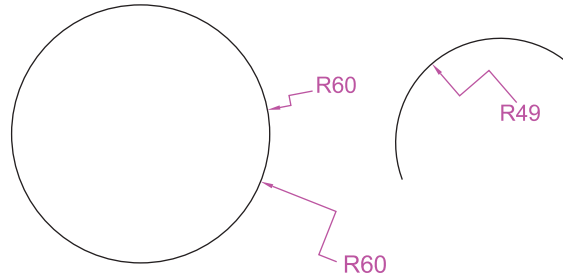

Fig. 6.16 Examples – the **Jogged** tool
The Jogged tool (Fig. 6.16)
1. Draw a circle and an arc as indicated in Fig. 6.16.
The results of placing as jogged dimension on a circle and an arc are shown in Fig. 6.16.